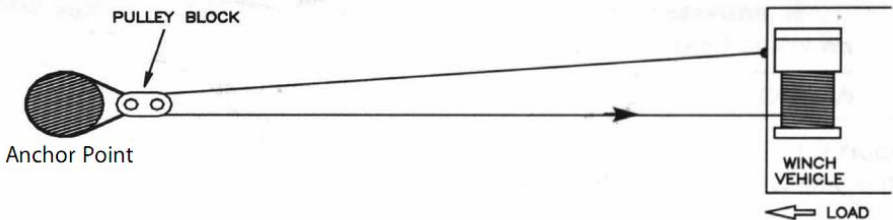

Figure 19
4. Figure 19 illustrate a method of rigging used to obtain a mechanical advantage. The use of a pulley block almost doubles pulling line capacity.(Please note the pulley block is not included)